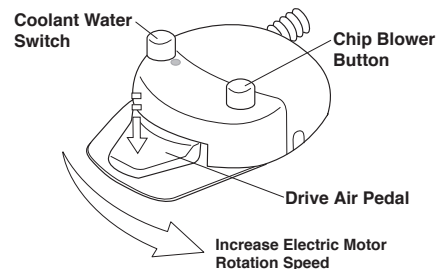

Fig.3-23 Electric Motor Foot Control (Type SE)
(2) Electric Motor Foot Control (Type SE)(Optional)(Fig.3-23)